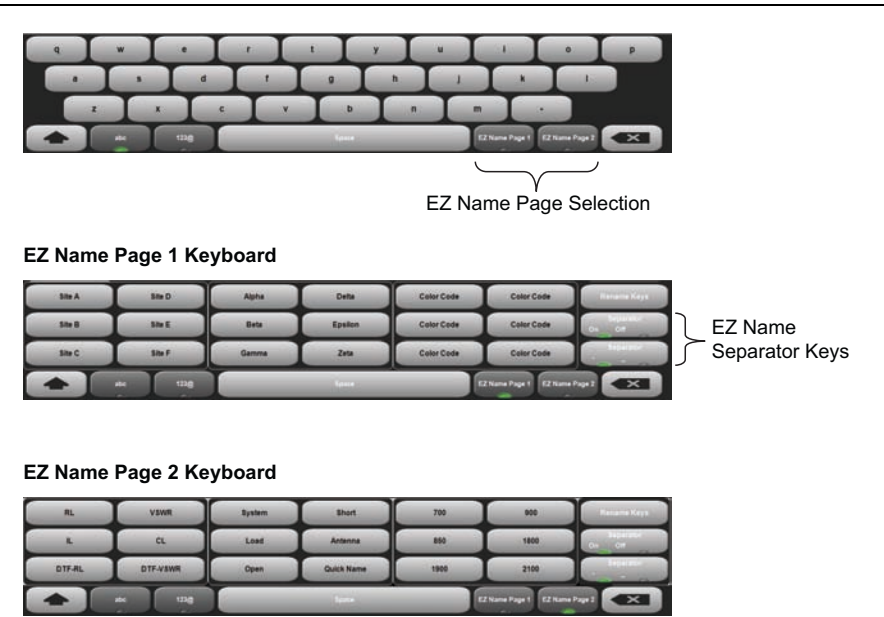

Figure 6-2. EZ Name Keyboards
1. Press **Rename Keys** on the appropriate EZ Name keyboard (Page 1 or Page 2). See Figure 6-2.